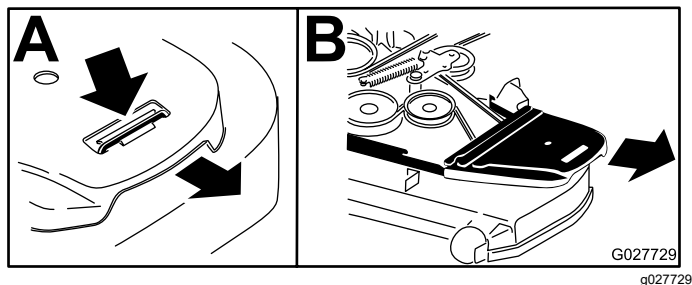

Figure 78
4. Remove the belt covers (Figure 78).